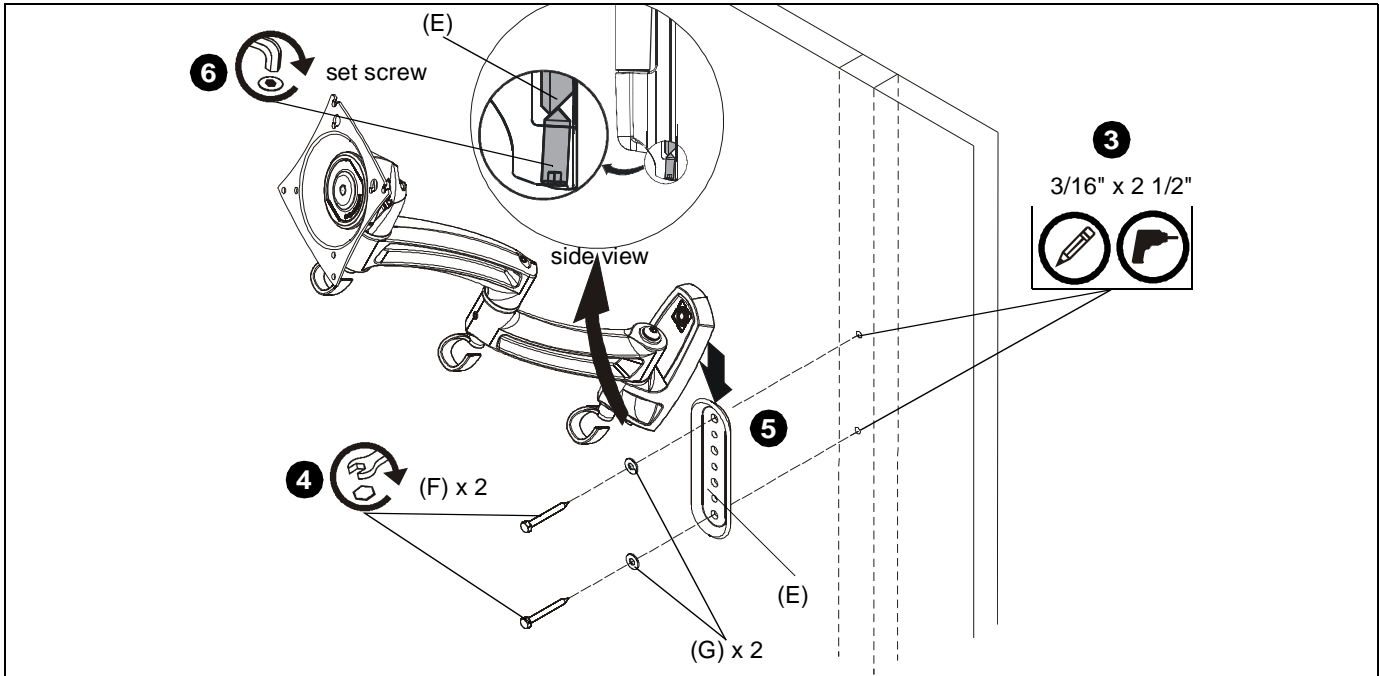

Figure 5
3. Use wall bracket to mark and drill two 3/16" x 2 1/2" holes in wall at desired mounting location. (See Figure 5)
4. Use two 1/4-2 1/2" hex head lag screws (F) and two 1/4" washers (G) to install wall bracket onto wall. (See Figure 5)
5. Hang monitor arm (A) over wall bracket. (See Figure 5)
6. Secure monitor arm to wall bracket by tightening set screw. Ensure set screw engages back side of wall bracket (E) to properly secure mount. (See Figure 5)